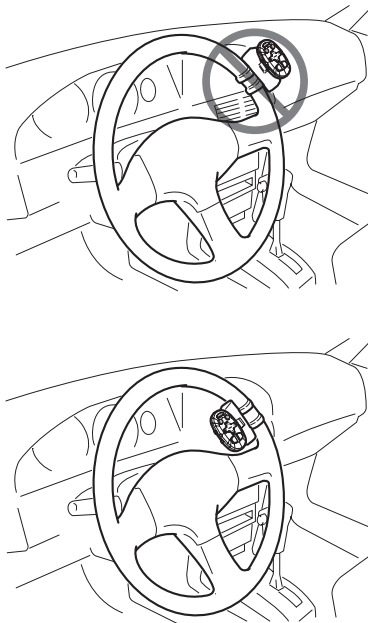

Fig. 14
- Do not attach the remote control to the outer circumference of the steering wheel. Otherwise, it disturbs driving stability, causing a traffic accident. Always attach the remote control to the inner circumference of the steering wheel as shown. (Fig. 14)